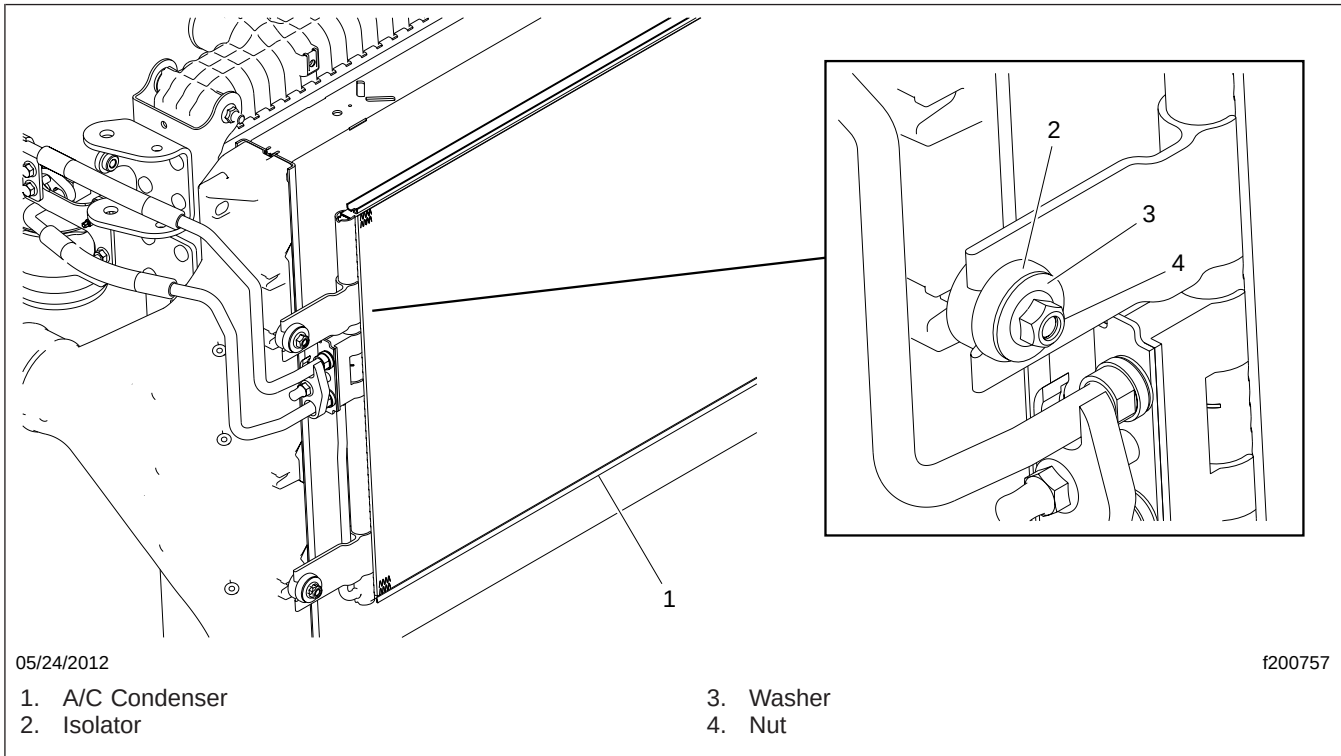

Fig. 8, A/C Condenser Installation
- 13.3 Unbolt the A/C condenser from the CAC. See Fig. 8.
- 5.1 Move the condenser into position and secure it temporarily. See Fig. 8.